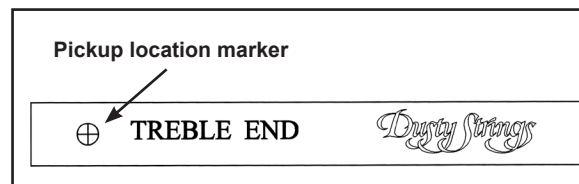

Figure 3 – Template
1. Find the pickup locating template provided in the installation kit. Poke an awl or a nail through the center of the four circles that have a cross through them (*see figure 3*).